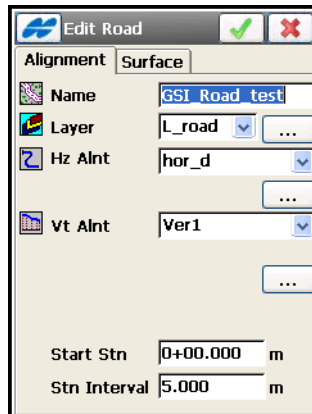

Figure 7-3. Edit Road Alignment
- **Edit** – opens the **Edit Road** screen (Figure 7-3 on page 7-4), displaying the parameters of the selected road.
The *Edit Road* screen (Figure 7-3) displays the general properties of the road.